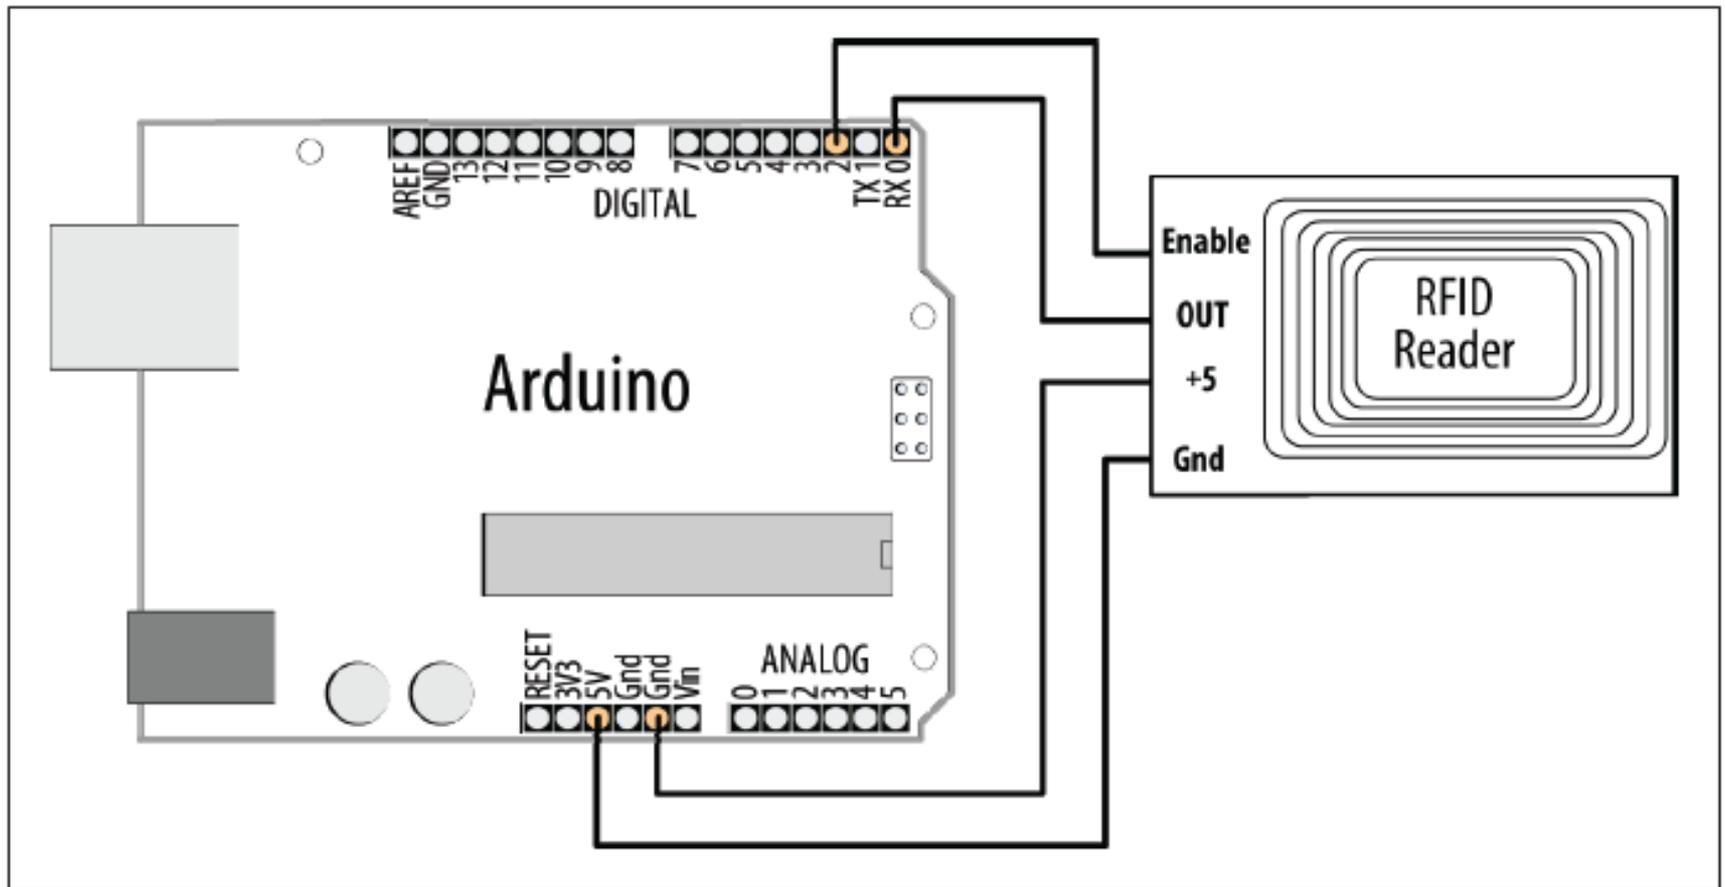

Figure 6-13. Serial RFID reader connected to Arduino
- Figure 6-13 shows a Parallax RFID (radio frequency identification) reader connected to the Arduino serial port. (You may need to disconnect the reader from the serial port when uploading the sketch.)